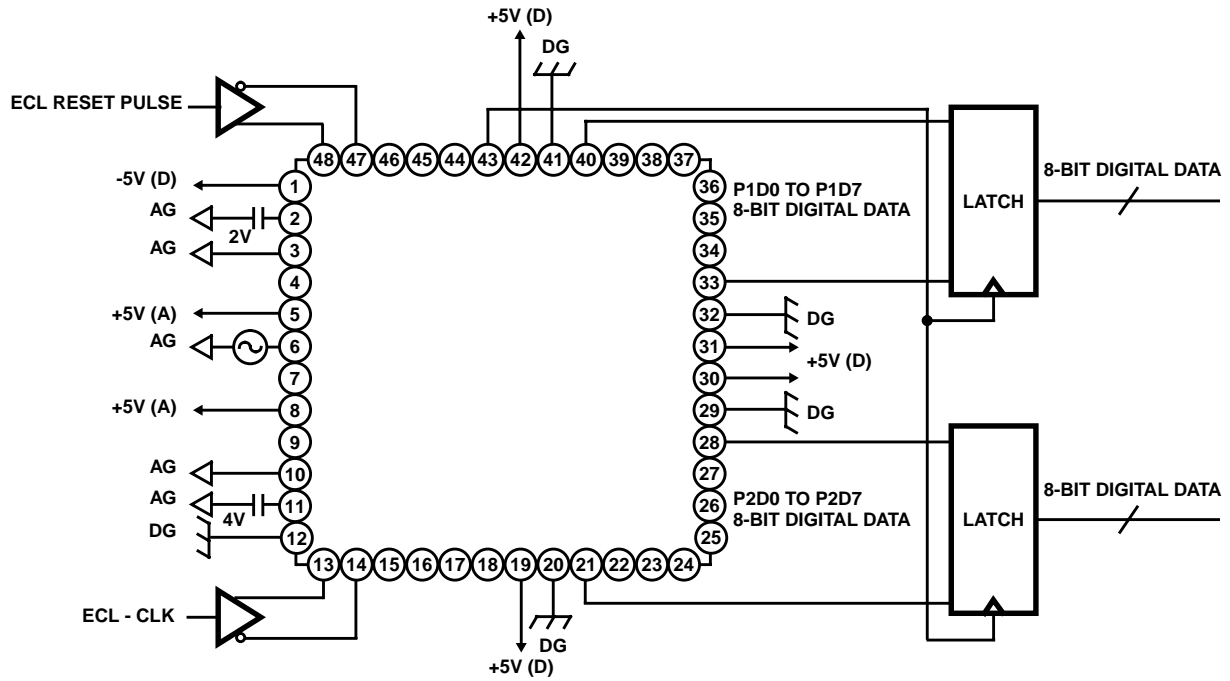

FIGURE 18. DMUX ECL INPUT
**DMUX Mode (See Application Circuits, Figures 18, 19, 20)**